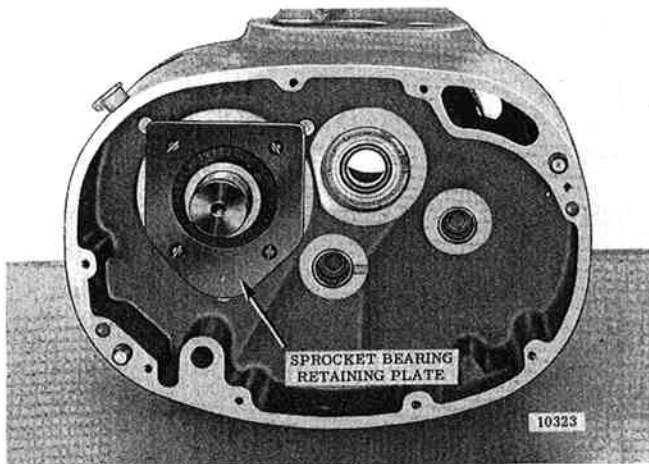
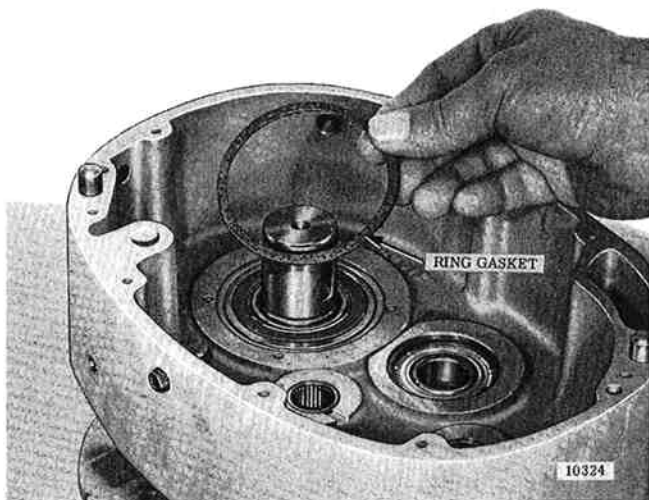

Figure 7-11. View of Sprocket Bearing Retaining Plate.
Figure 7-12. Removing sprocket Bearing Ring Gasket. (On later model hoists ring gasket is replaced by a seal disk with oil seals.)
(2) Unscrew four fillister head machine screws securing sprocket bearing retaining plate and remove plate (fig. 7-11). Remove and discard ring gasket from groove around bearing or remove seal disc (fig. 7-12).